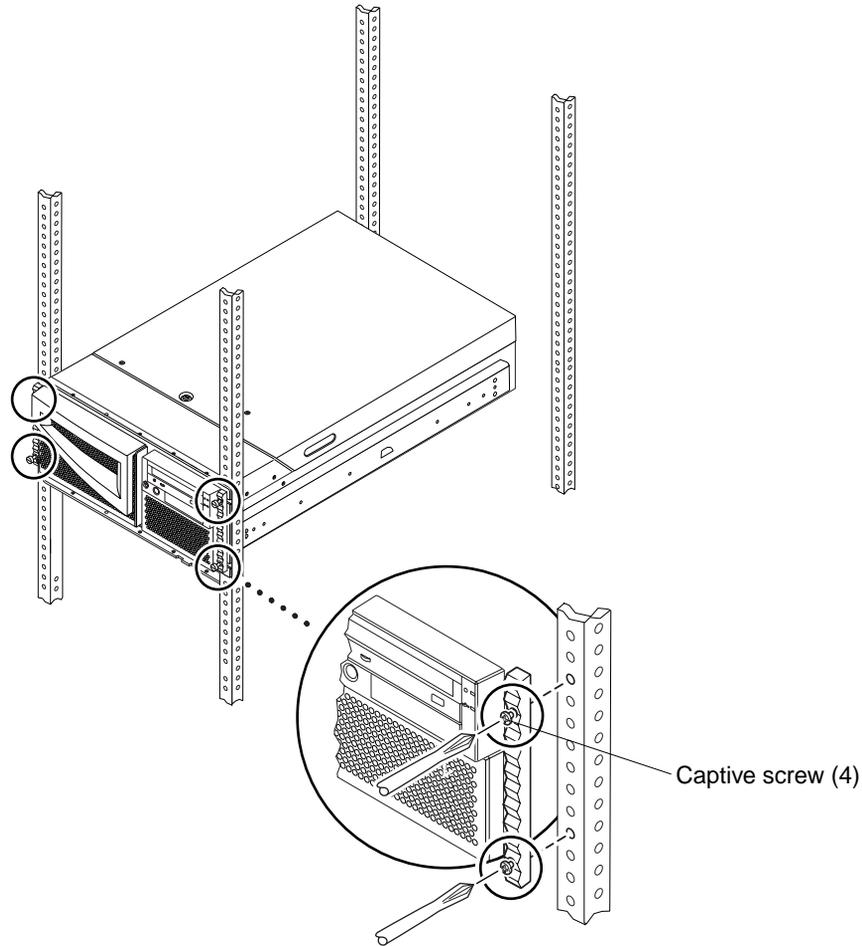

FIGURE 9-16 Loosening the Captive Screws Securing the File Server or Compute Engine to the Rails
5. **Loosen the four captive screws securing the file server or compute engine to the left and right vertical rails at the front of the rack (FIGURE 9-16).**